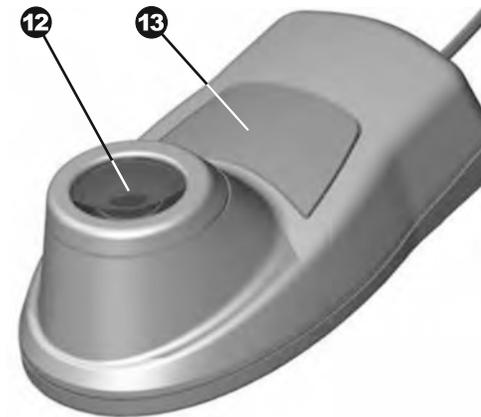

Fig. 20. Optical magnifier **DORS 10**
When **DORS 10** magnifier (see Fig. 20) is used, the device itself may be in any operation mode. Place the lens (12) of the **DORS 10** magnifier above the area of the banknote to be examined (the banknote shall be on a plane horizontal surface).